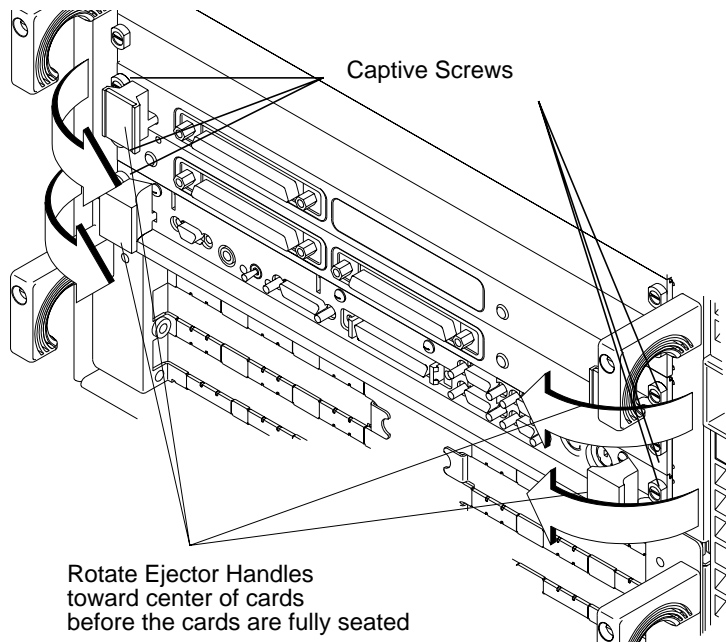

Figure 2-15
- 15** Engage all captive screws before tightening each screw of the board computer and PMC adapter(s). See Figure 2-15.